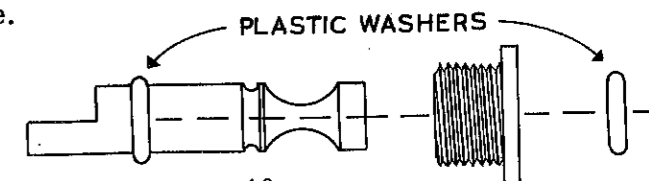

Figure 16
- (✓) Assemble the dial drive shaft assembly as shown in Figure 16. Begin by pushing one of the plastic "O" washers on the shaft from the flatted end until it falls in place in the slot provided for it. Do not use tools with sharp edges to force the washer over the edge of the flat, for it is possible that the washer will be broken. After the first washer is in place, put a small amount of lubriplate or vaseline on the shaft. Do not use an excessive amount since it may cause dial cord slippage. Install the bushing in the direction shown in Figure 16 and install the other plastic washer from the drive side of the shaft. A spare washer is furnished in case of accidental damage during installation.